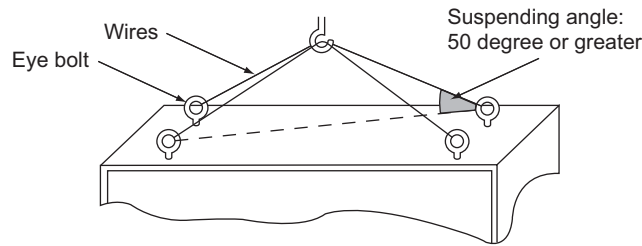

Figure 2.6 State of Suspension with Wires
- Use the wire of a length that ensures a 50 degree or wider suspending angle, as illustrated in Figure 2.6. The maximum allowable load of the eye bolts for suspension cannot be guaranteed when the drive is suspended with the wires at an angle less than 50 degrees.
- Pass wire through the holes of all the four eye bolts (See Figure 2.6).